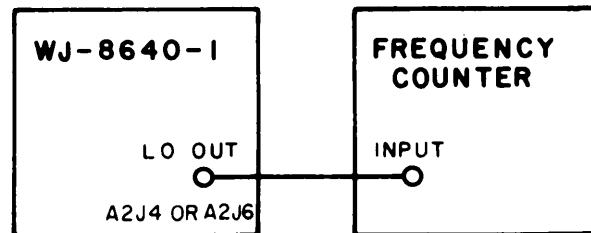

Figure 4-5. Test Setup, Fine Tuning Range
- (1) Construct the circuit as shown in Figure 4-5.